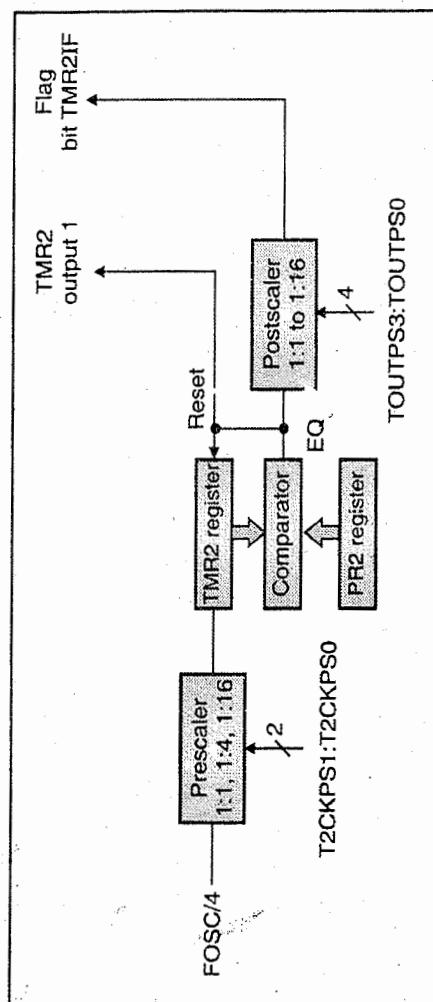

Fig. 7.5.1 : Timer 2 block diagram
- Fig. 7.5.1 shows the block diagram of Timer 2. As shown in Fig. 7.5.1  $\frac{f_{osc}}{4}$  is the clock source for Timer 2. As no external source is used for Timer 2, Timer 2 cannot be used as a counter.